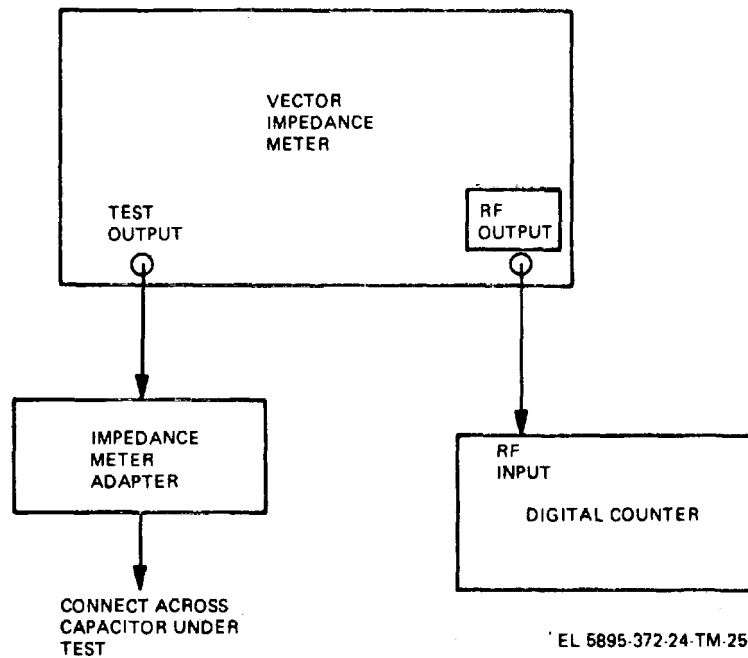

Figure 4-10. Soft mounted coupler (1A5) test equipment setup.
(1) Remove soft mounted coupler from equipment.
(2) Remove both side panels from soft mounted coupler.
(3) Inspect all components of soft mounted coupler for physical integrity.
(4) Set TUNE control on soft mounted coupler fully counterclockwise.
(5) Connect test equipment as shown in figure 4-10. Calibrate vector impedance meter probe to read 100 ohms at a phase angle of 0°.